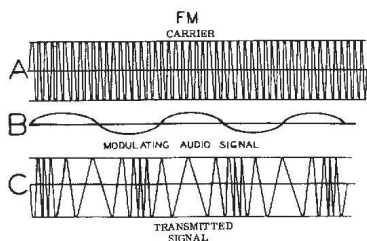

Figure 3
FM (frequency modulation) means that the carrier amplitude is held constant while the carrier frequency is varied above and below the station frequency at a rate determined by the audio being transmitted. This can be seen in figure 3. The audio signal (B) is applied to